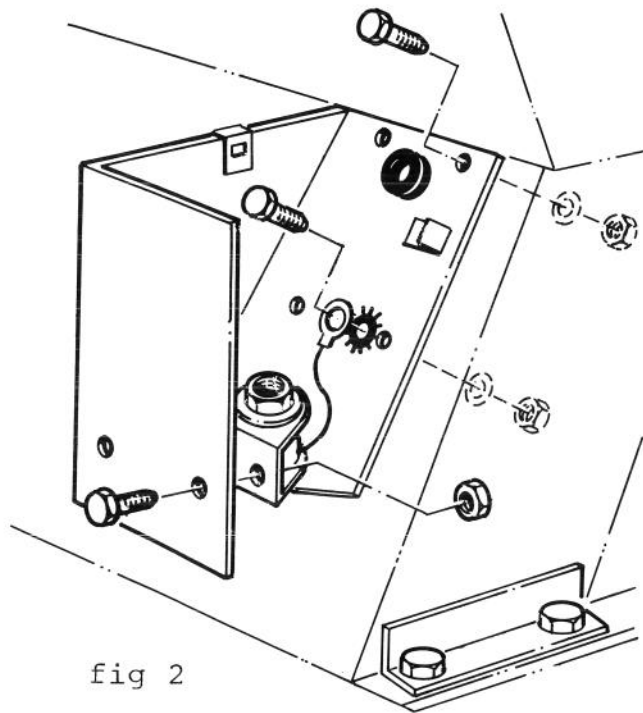

fig 2
2. Position Mounting Plate as shown (fig 2) and bolt in place using three Capscrews, Washers, and Locknuts. Insert Grommet into Mounting Plate.